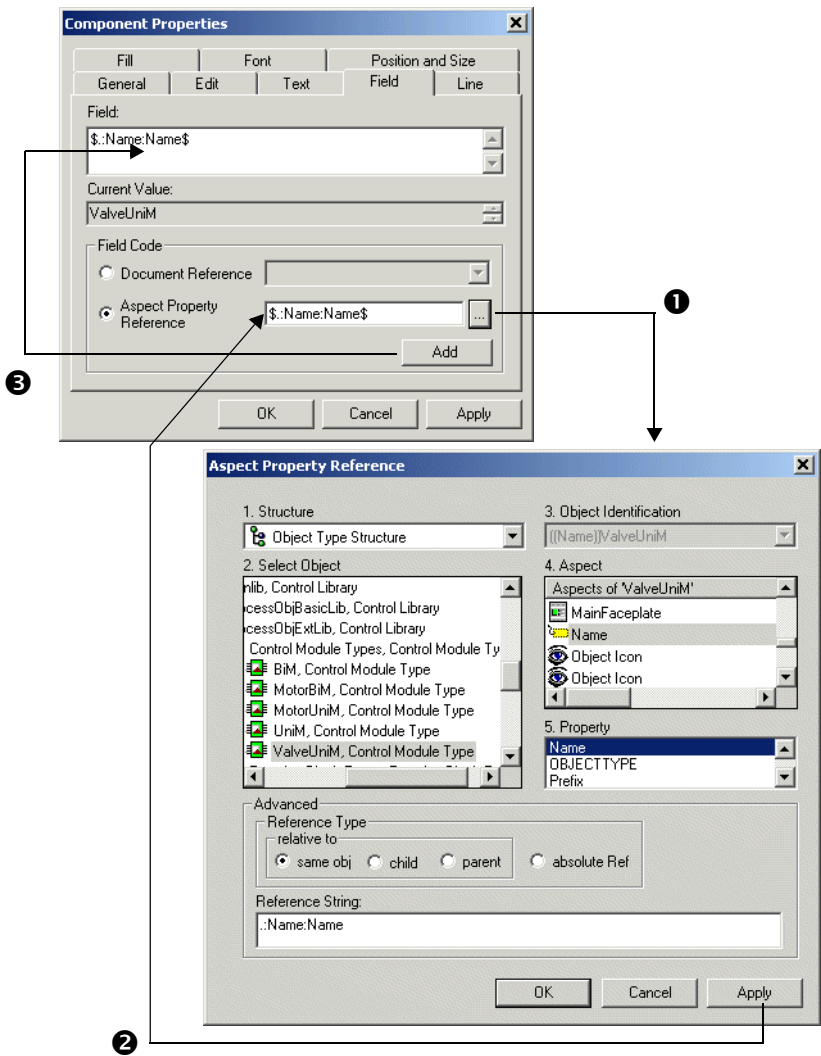

Figure 27. Setting a Reference to the Symbol Name
8. Click  and add a text component (symbol name) with an aspect property reference to **ValveUniM's** Name Aspect. Changes in the instance name are automatically reflected in Function Diagrams. Perform the following and also refer to Figure 27: